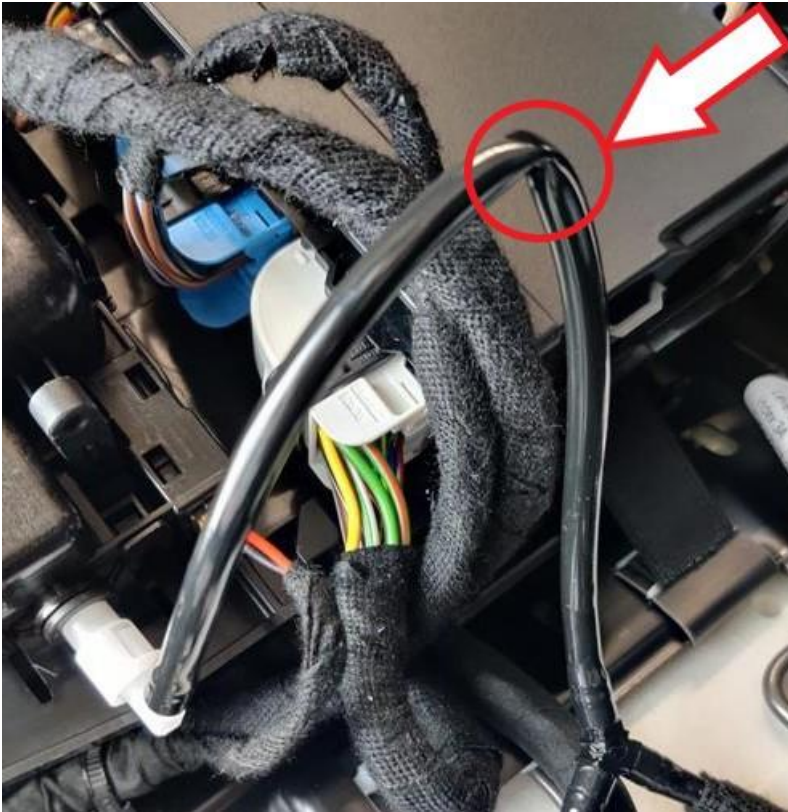

Figure 1
- Air supply lines checking for bends/kinks (Figure 1 shows an example)